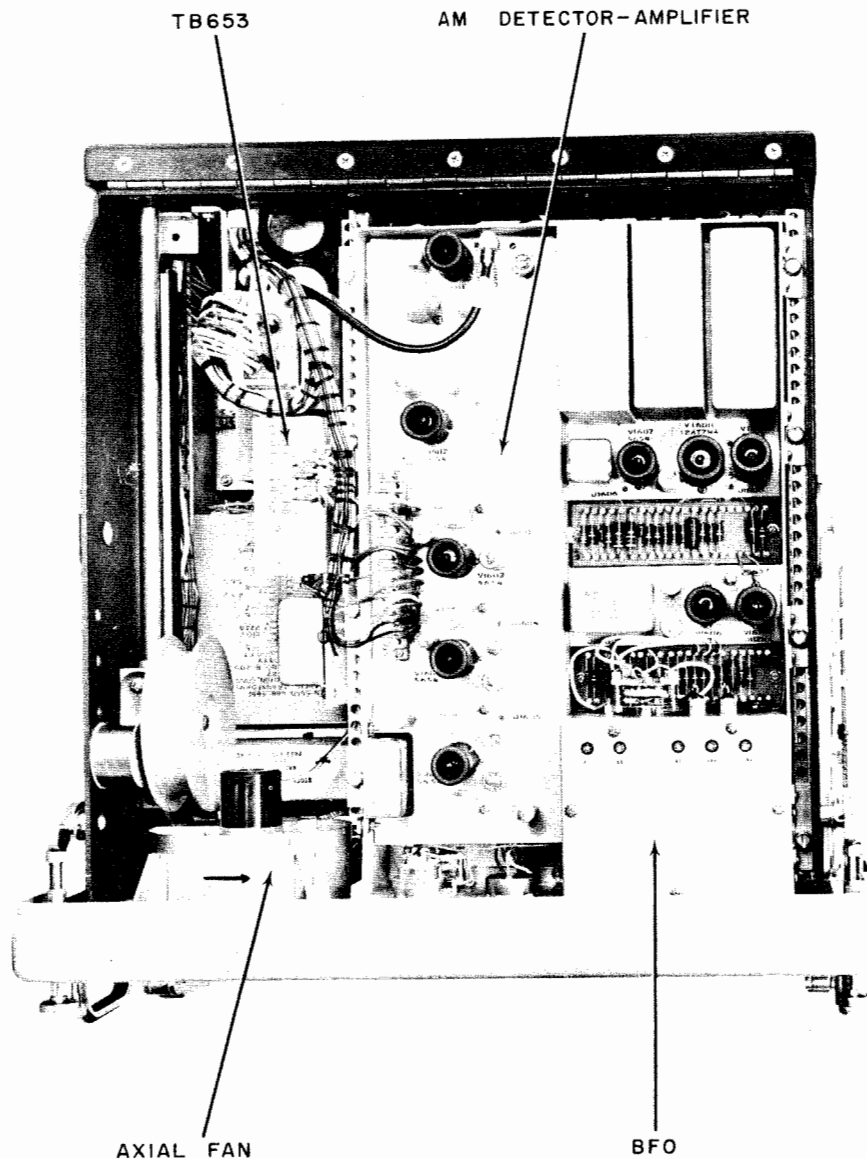

Figure 6-10. Demodulator Drawer, Upper Deck, Top View
(1) GENERAL.—This section includes supplementary information on removal and replacement of the receiver's INTERNAL STANDARD ADJUSTMENT control, INT. STD. LOG counter (figure 5-56) air filter, located on the front cover on top of the converter unit, and ventilating axial fan (figure 6-10). Information is also provided on lubrication of certain items.
(2) INTERNAL STANDARD ADJUSTMENT CONTROL AND INT. STD. LOG COUNTER.